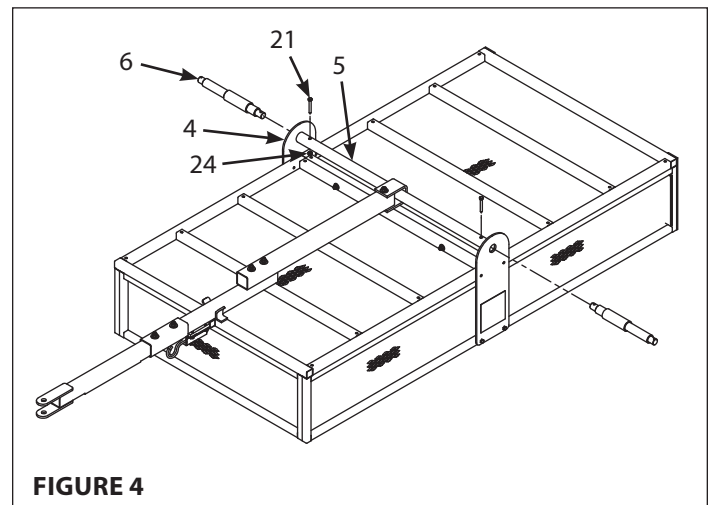

FIGURE 4
7. Attach the tongue assembly to the frame assembly by inserting the short end of the two axle spindles (6) through the axle mounting plates (4) and threading into the axle tube (5). Thread axle spindles until snug and then loosen until holes in the axle tube and spindles are aligned. Secure the two axle spindles (6) to the axle tube (5) using two M6x45mm bolts (21) and M6 locknuts (24). **SEE FIGURE 4**